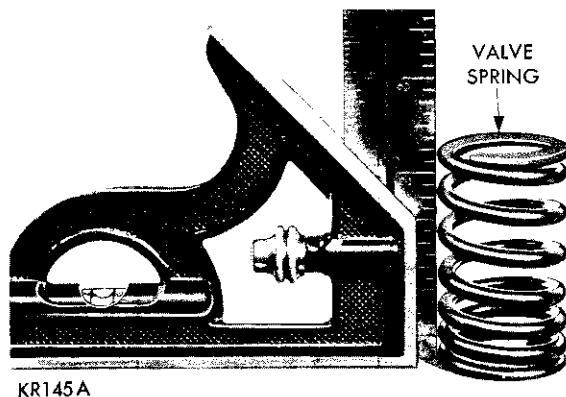

Fig. 13—Inspecting Valve Spring Squareness
(2) Inspect each valve spring for squareness at both ends with a steel square and surface plate, as shown in Figure 13.
(3) If the spring is more than $1/16$ inch out of square, install a new spring.